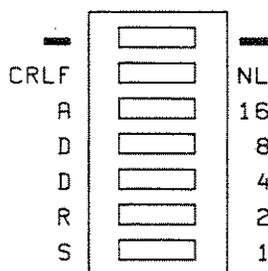

Figure 6-1 Address Switch
- ADDRS 1,2,4,8,16** The five switch positions shown in Figure 6-1 allow the 3708A HP-IB address to be set to the addresses outlined in Table 6-2. The 3708A is normally factory preset to address decimal 8.